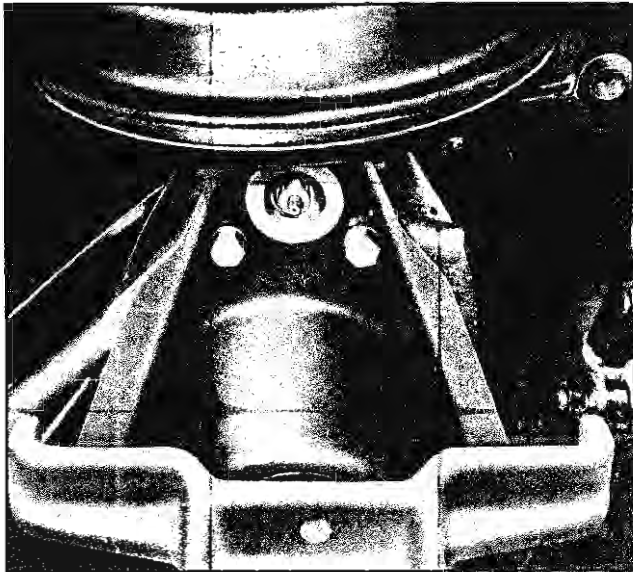

Fig. 3-17 Strut Rod Front Retaining Nuts
3. Remove the two strut rod to control arm nuts and lockwashers (Fig. 3-17). The studs are pressed into the end of the strut rod.